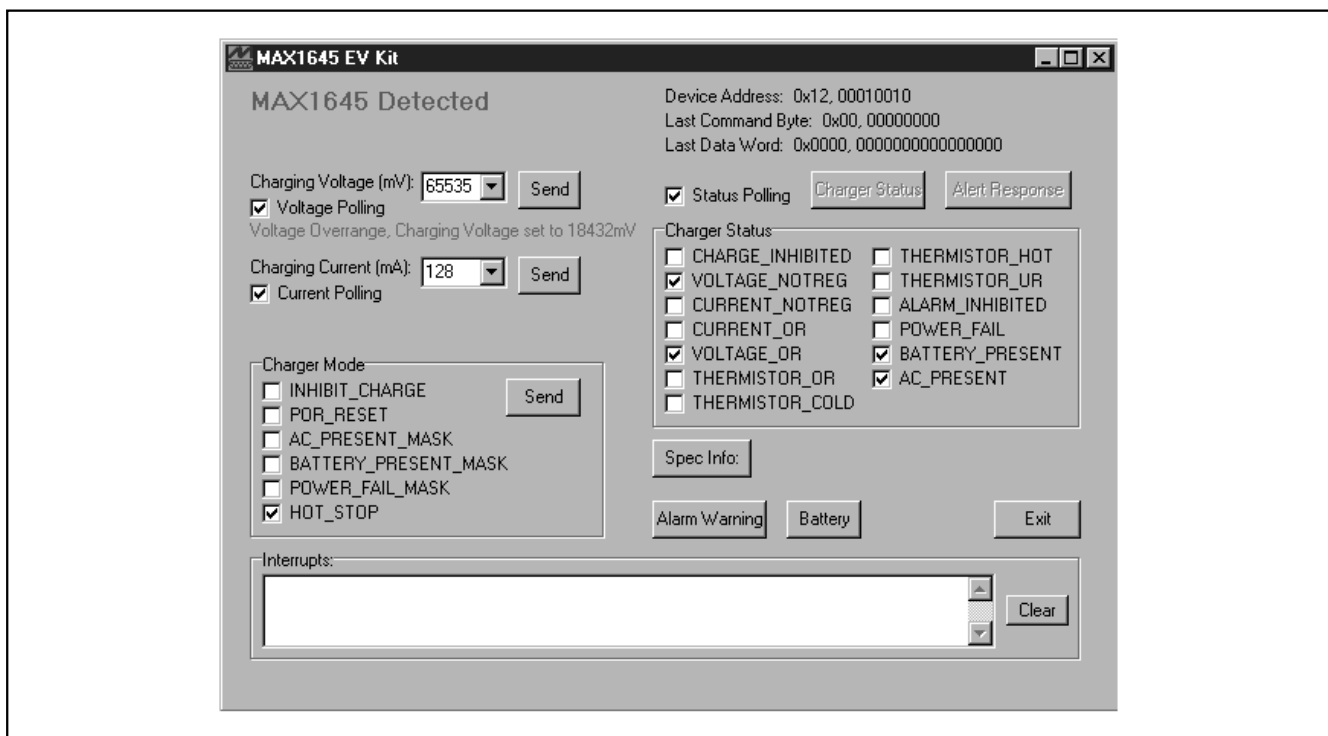

Figure 2. MAX1645 EV Kit Software Command Panel
- 8) The software should appear as shown in Figure 2. Verify that Charging Voltage = 65535mV, Charging Current = 128mA; HOT_STOP is checked; Voltage Polling, Current Polling, and Status Polling are checked; and the following checkboxes are checked in the Charger Status panel: VOLTAGE_NOTREG, VOLTAGE_OR, BATTERY_PRESENT, and AC_PRESENT.
device. The software enables the command panel (Figure 2), after which the user may issue any of the allowed SMBus commands to the MAX1645. Refer to the MAX1645 data sheet for more information regarding the allowed SMBus commands.